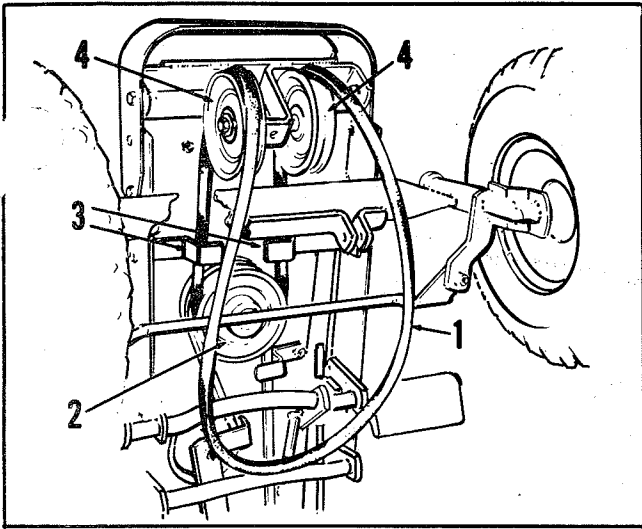

Figure 2.
2. Place the rotor drive belt (1), Figure 2, in position on the lower groove of the engine pulley (2), Figure 2, as shown. (Figure 2 is an illustration of the tractor underside). Note the position of the belt in relation to the belt-guide fingers (3), Figure 2. After passing around the engine pulley and between the belt-guide fingers, give the belt a suitable "twist" that it may fit properly to the groove of the power take-off pulleys (4), Figure 2.